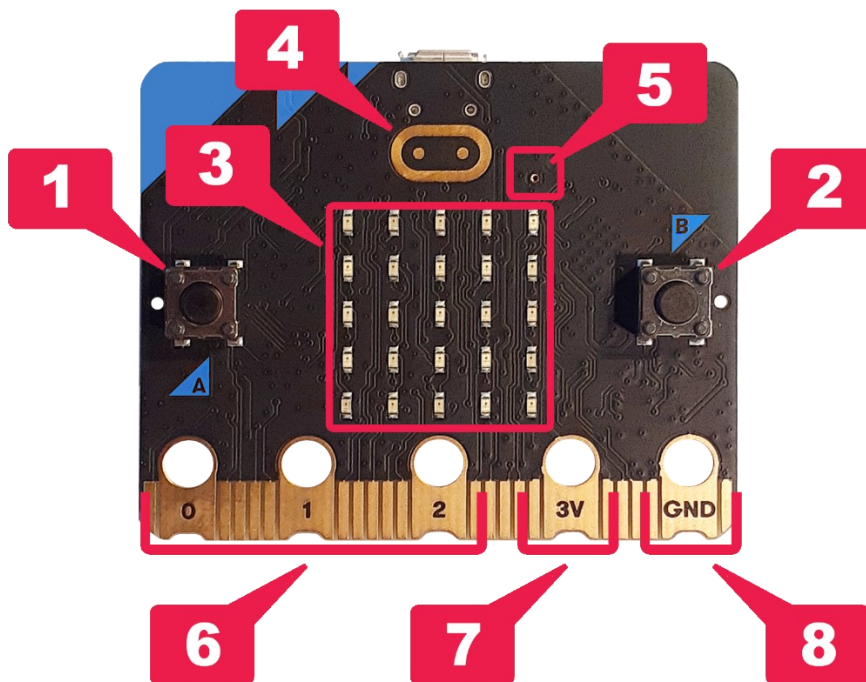
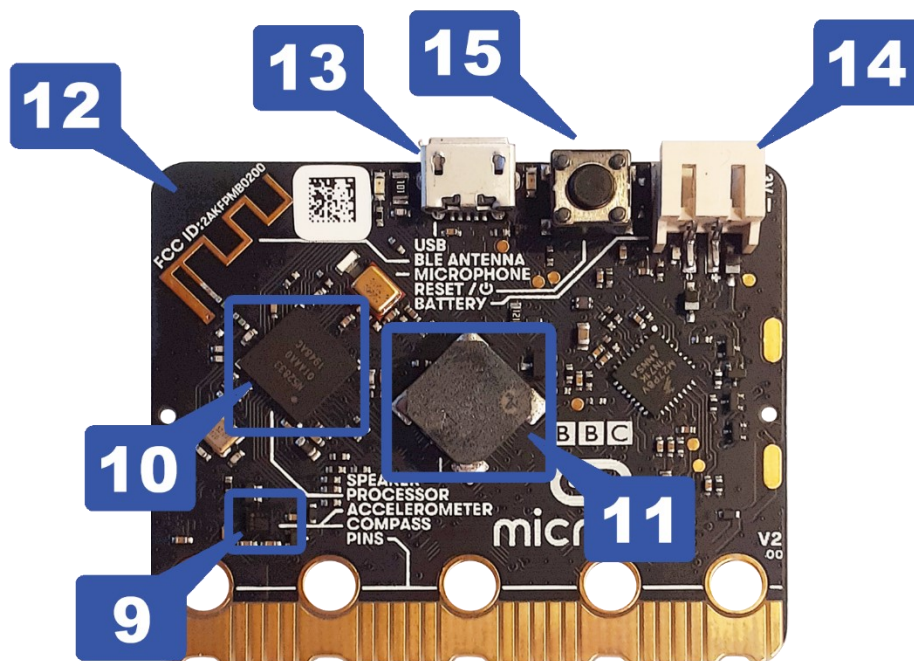

Figure 3: In-built input and output devices on the front side of the micro:bit
Figure 4: In-built input and output devices on the back side of the micro:bit
Front side (Figure 3):
Back side (Figure 4):
¹ **Note:** To connect and exchange data with a smart device (smartphone or tablet) you must first pair your micro:bit through Bluetooth. To do this, simultaneously press buttons A (1) and B (2) (Figure 3). While holding them pressed, press the reset button (15) (Figure 4) for one second. Then release it and continue holding Buttons A and B, until the LED screen (3) (Figure 3) displays a pattern. Release the buttons. After a while the Bluetooth symbol or the word “Paired” will be displayed on the LED screen. To find micro:bit, open your smart device's Bluetooth settings and scan for available devices.
As mentioned, the BBC micro:bit board has a very low power Bluetooth Radio antenna [Figure 4, (12)] that allows the micro:bit to communicate wirelessly with other micro:bits or other devices. This Bluetooth is the same radio that a smartphone uses to communicate with other wireless devices (such as handsfrees or smartwatches). This feature is valuable not only for introducing IoT to your students, but also for creating a range of IoT projects.